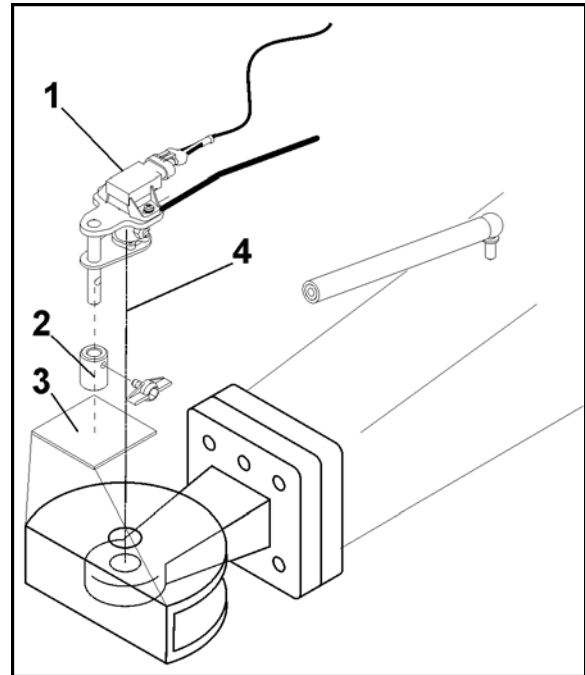

Fig. 132
- Keep the distance between the coupling point and position encoder (Fig. 132/ X) as small as possible (particularly with the hitch drawbar).